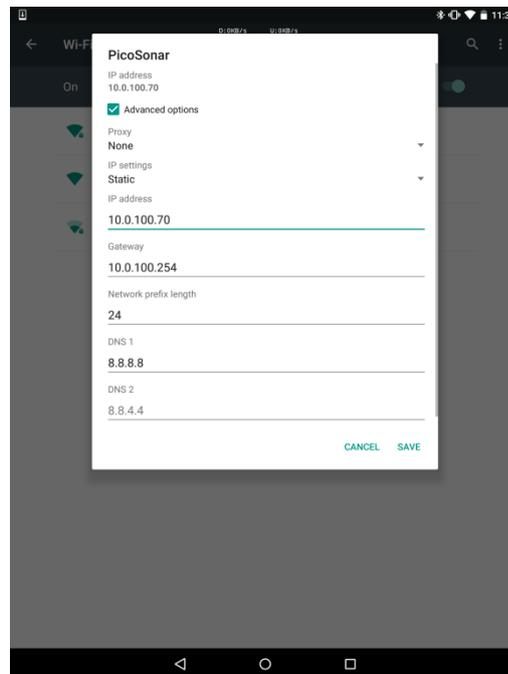

Figure 1 Setting up Android static IP address:
- On the Android device go to Settings->Wi-Fi, long press the 'PicoSonar' network and configure as shown in Figure 1 below.